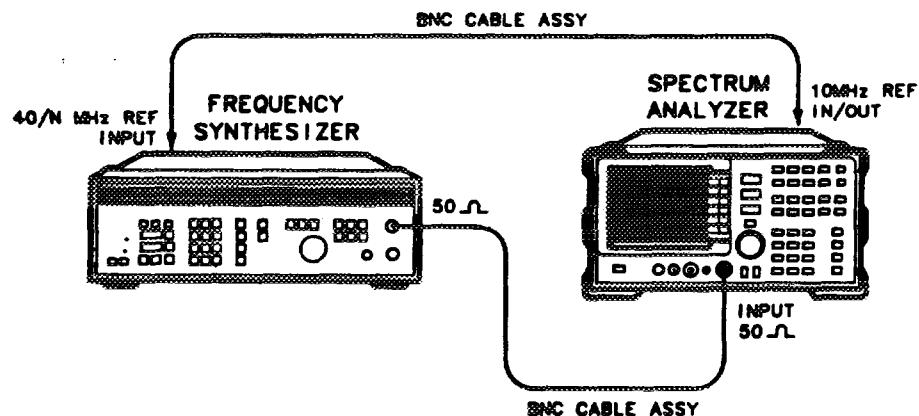

Figure 3-5. Resolution Bandwidth Accuracy and Selectivity Test Setup
1. Connect the equipment as shown in Figure 3-5. The HP 8562A/B provides the frequency reference for the HP 3335A.